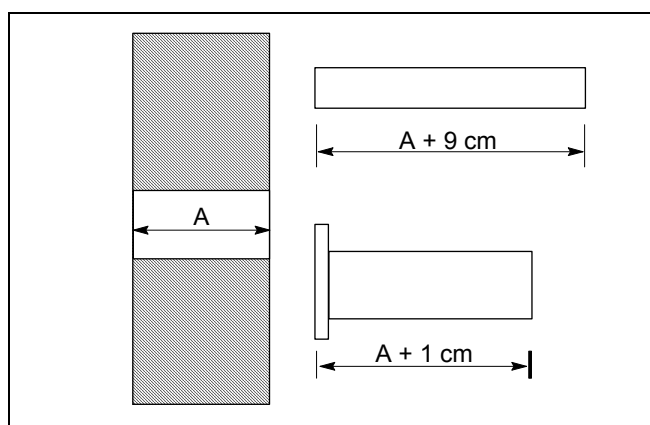

Figura 4
5. Adapt the length of the pipes (exhaust outlet and intake air) to the effective depth of the wall, cutting the exceeding part: for the exact length see Figura 4.